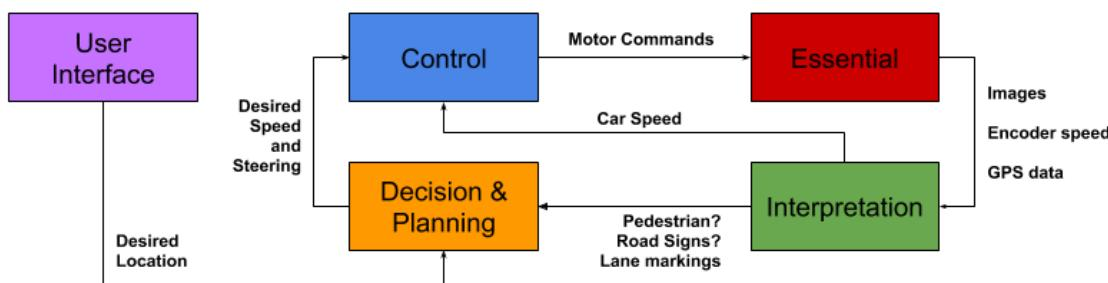

Figure 3: Autonomous driving example
In addition to the supplied **Hardware Tests** and **Application** examples, the **Self Driving Car Research Studio** comes with **Core** Simulink models, equipped with a list of Simulink subsystems and MATLAB functions commonly used throughout the provided examples. These are broken down into 6 functional groups: Essential, Control, Interpretation, User Interface, Decision & Planning, and Miscellaneous, which are summarized in Table 1 in the context of an autonomous driving example illustrated in Figure 3. Use these methods (found under Core) as you see fit.
User Interface (UI)	Serves as the entry point for the user - manual switches, sliders, constants etc. that are expected to be tunable online. In Figure 3, this corresponds to the user's desired coordinates.
Essential	This core represents all the I/O (inputs and outputs) in regards to the QCar. Motor commands and LED values written to the device, and measurements such as IMU, motor current, battery voltage, image acquisition from the RGBD camera, LIDAR scans etc. are included here. The Essential core represents the platform itself and without these, the model is purely a simulation. In Figure 3, this represents motor commands written and image capture.
Interpretation	This includes methods or functions that interpret sensor data according to the application at hand. Analyzing images to detect obstacles or road signs, detecting lanes, etc. all belong here. In Figure 3, this involves analyzing images for pedestrians or stop signs, and detecting lanes.
Control	This serves as the classic control group of methods. Cruise control, steering-based speed reduction, etc. get included here. In Figure 3, this involves a cruise controller to follow the desired speed command.
Decision & Planning	These modules include the higher-level decision making that is involved with autonomous or intelligent systems. In the example in Figure 3, this subsystem calculates the desired speed to pass to the Control unit depending on the desired position from the UI unit and pedestrian/road sign data from the Interpretation unit.